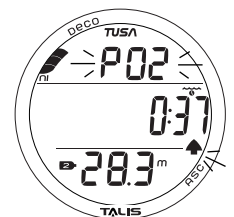
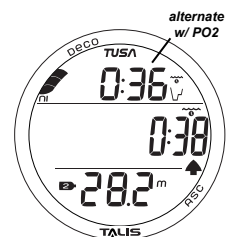

Fig. 71 - HIGH PO2 MAIN (during Audible)
Fig. 72 - HIGH PO2 MAIN (after Audible)
- > The graphic PO2 and Up Arrow icon will be displayed flashing on the Main (Fig. 71) until the Audible is silenced, then the graphic PO2 will alternate with NDC time if in No Deco (Fig. 72), or TAT if in Deco, until PO2 decreases to 0.20 (ATA) below the alarm value set.